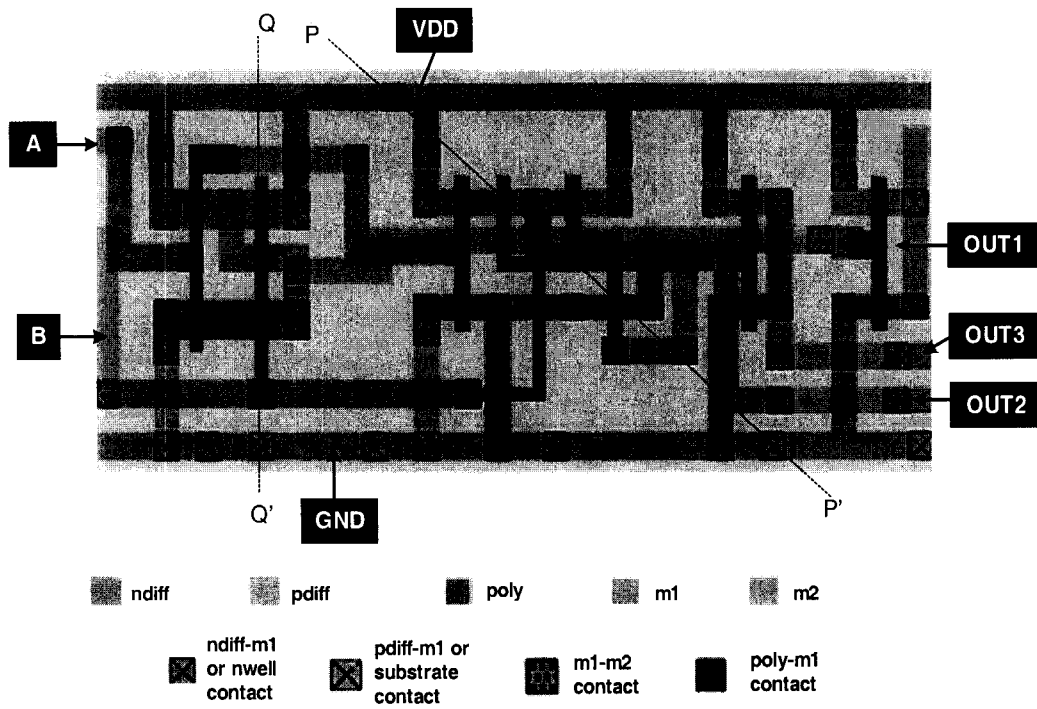

Figure 1 Layout of a full-custom cell for Question 1
1. a) Figure 1 (See the colour supplementary sheet) shows the layout of an n-well CMOS circuit with two inputs A and B, and three outputs OUT1, OUT2 and OUT3. Extract and draw the transistor-level schematic diagram.